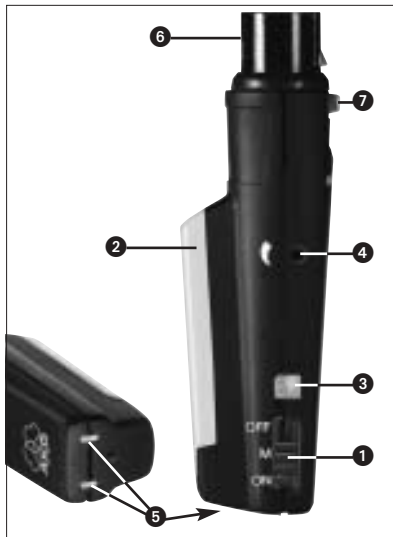

Fig. 1: SO 40 controls.
2.5 Controls (Refer to fig. 1)